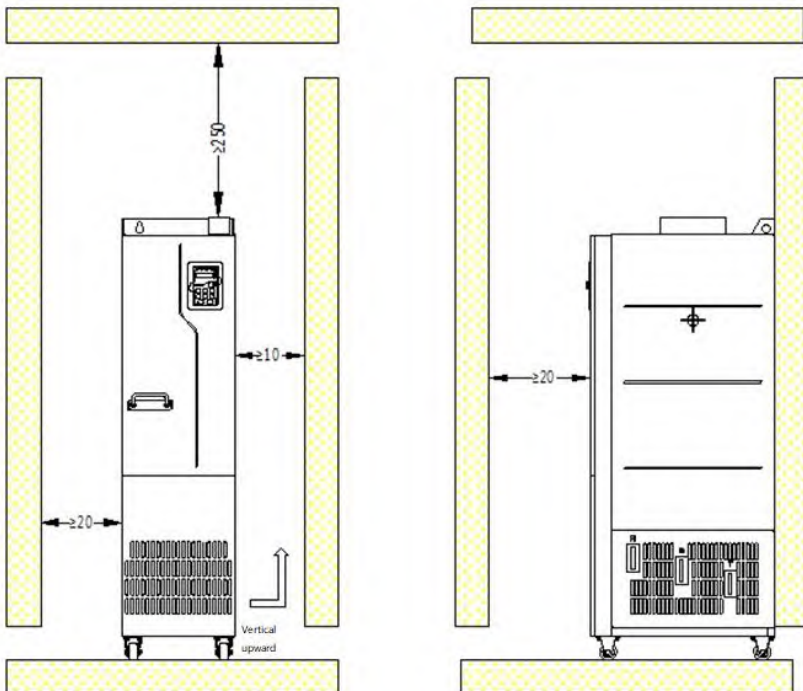

Figure 4–9 Mounting space requirements
- Figure 4–9 shows the mounting space. You not only need to reserve enough heat dissipation space for the VFD but also need to consider the heat dissipation condition for other devices in the cabinet.